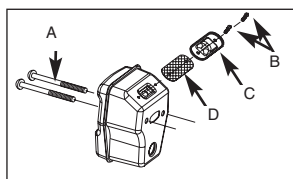

Fig. 20B
2. Remove the 2 screws holding the cover (C), see Fig. 20B.
3. Dispose of the old spark mesh (D) and insert a new one.